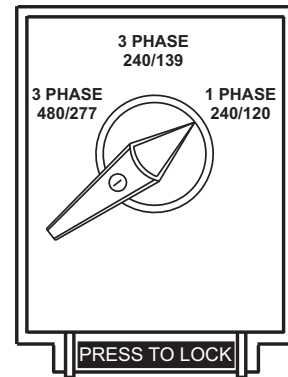

Figure 22. Voltage Selector Switch
1. Place the **Voltage Selector switch** in the **1-phase 240/120-volt position** as shown in Figure 22.